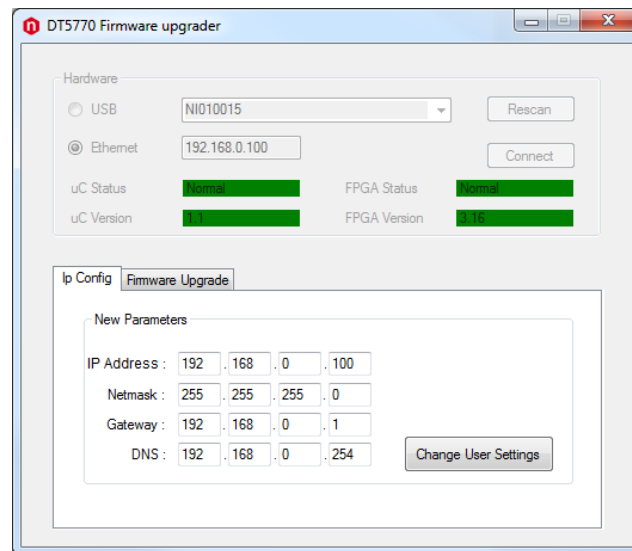

Fig. 12.6: Ethernet connection with the new IP configuration
- 8.Select the Ethernet link, type the new IP Address and connect (“Connect” button) to check the IP change is effective (see **Fig. 12.6**).